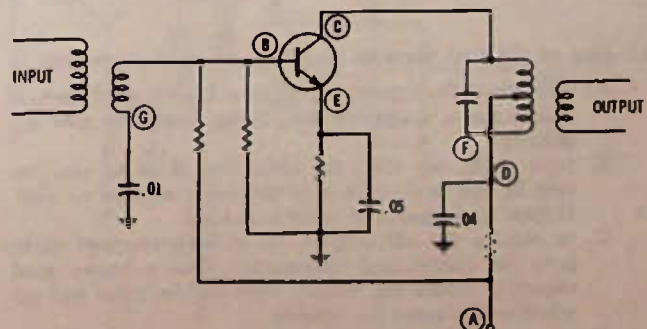

Fig. 14-17. Circuit for Questions 8 and 9.
8. Fig. 14-17 shows an i-f amplifier circuit. All the points that are "hot," so far as signal voltage is concerned, are
9. In Fig. 14-17, the points that are "hot," so far as dc voltages are concerned, are